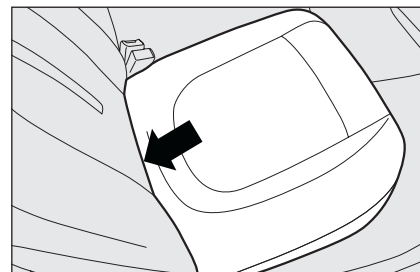

fig. 88
- ☐ fold the required cushion **fig. 88** forward as shown by the arrow;